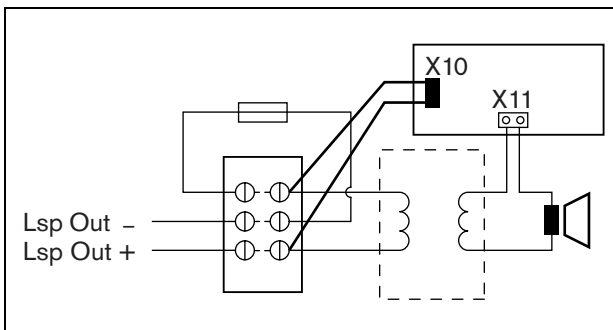

figure 10.6: Connection
- 3 Connect the board to the loudspeaker with the flying leads and the faston connectors (see figure 10.6).